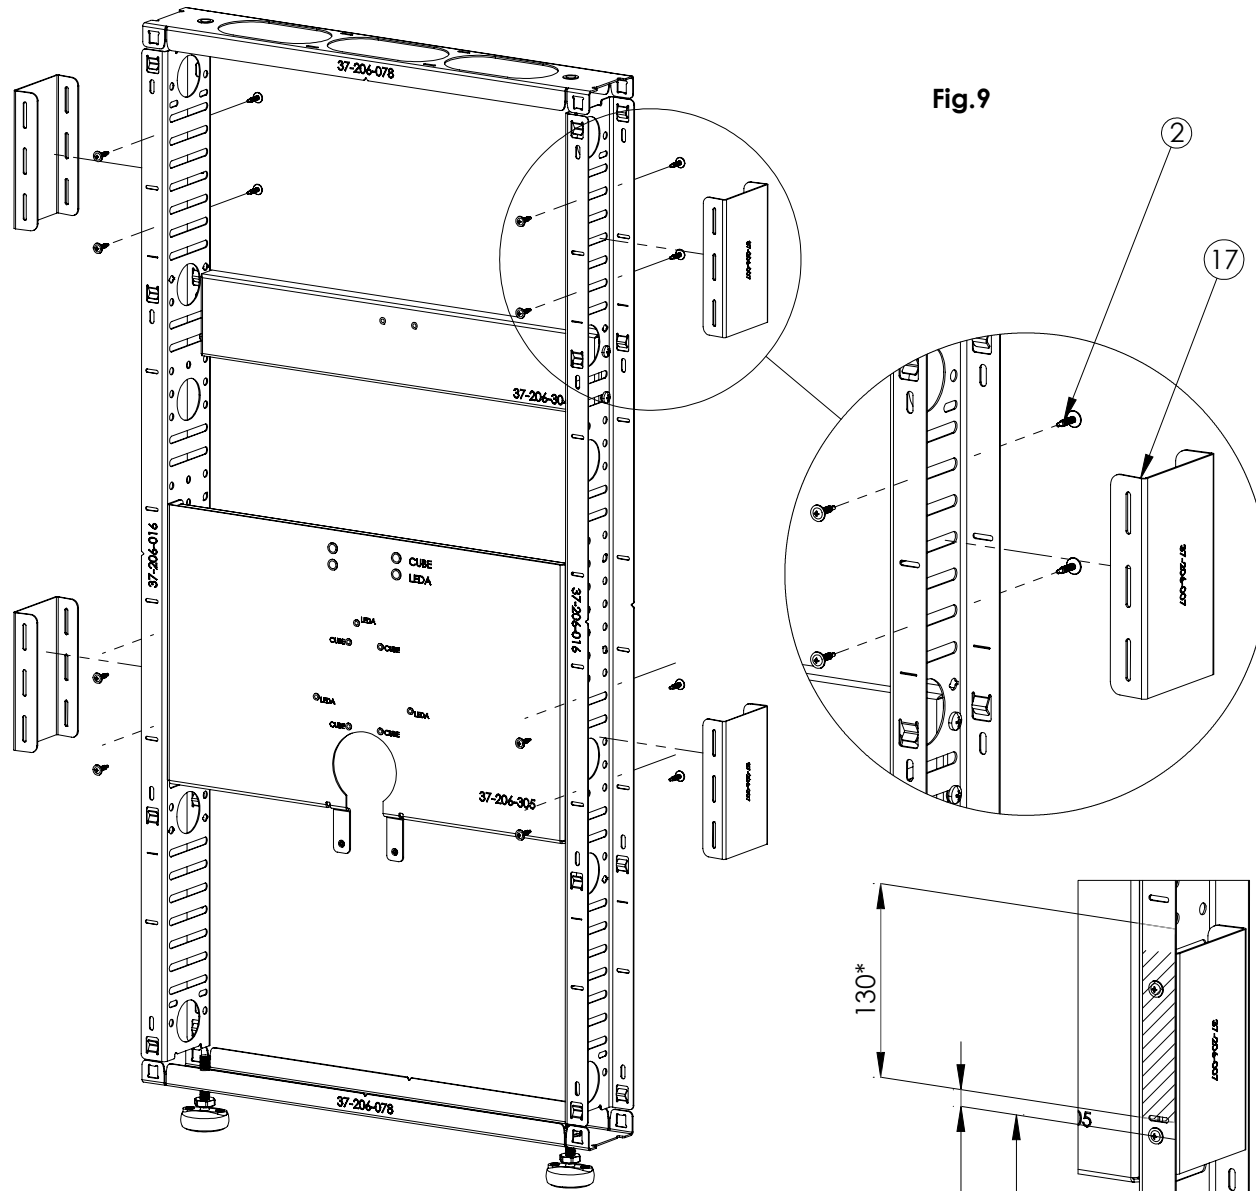

Fig.9
- i) Position and fit the four linking brackets (17) using 16pcs drilling screws (2) as shown in Fig.9.